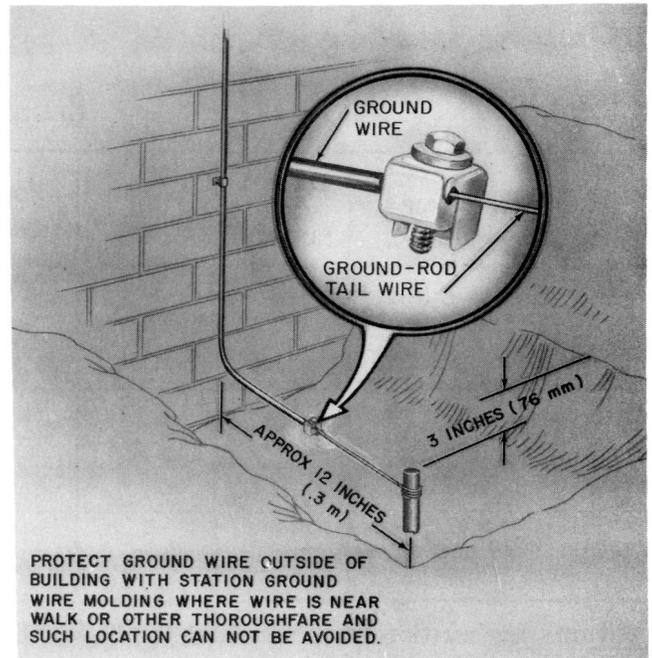

Fig. 77—Ground Rod Installed Near Wall
- (c) Approximately 12 inches from outside walls (Fig. 77)
9.06 After the No. 10 or No. 12 station ground wire is installed, it is attached to the ground rod tail wire with a size 6 AT-7796X connector (Fig. 77). Tighten the ground rod tail and ground wire securely in the connector; **do not tape this connection.** If a 6-gauge ground wire must be terminated on the ground rod, select the proper ground clamp per Table E.